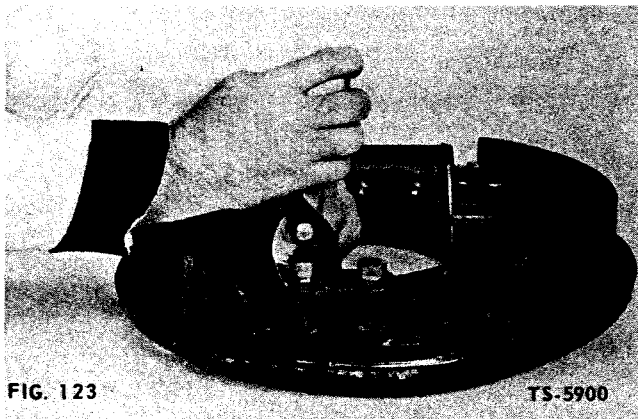

FIG. 123
5. Install washer on guide pin and position brake shoe on disc. Install second washer and "C" ring on guide pin. Clinch "C" ring with pliers. Secure brake shoe to anchor pin with large "C" ring. Clinch "C" ring with pliers (Fig. 123).